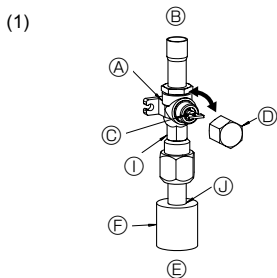
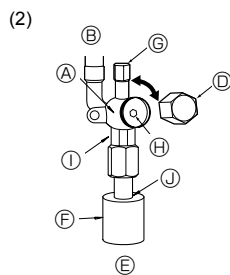

Fig. 4-5
Fig. 4-6
(1) Gas side of P71-140 (Fig. 4-5)
- ① Remove the cap, pull the handle toward you and rotate 1/4 turn in a counterclockwise direction to open.
- ② Make sure that the stop valve is open completely, push in the handle and rotate the cap back to its original position.
- (2) Liquid side of P71-140 (Fig. 4-6)
- ① Remove the cap and turn the valve rod counterclockwise as far as it will go with the use of a 4 mm hexagonal wrench. Stop turning when it hits the stopper. (ø9.52: Approximately 10 revolutions)
- ② Make sure that the stop valve is open completely and rotate the cap back to its original position.